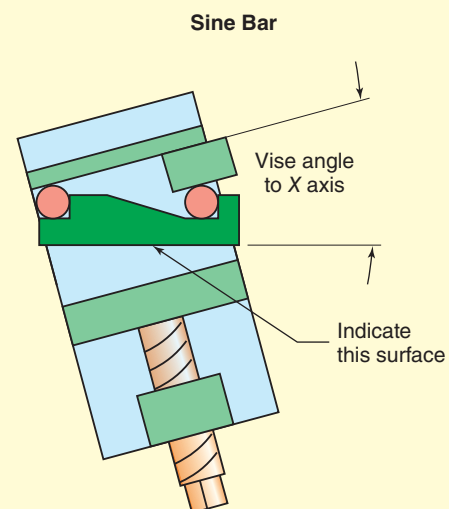

Figure 12-103 Setting up a vise to a precision angle by indicating a sine bar.
3. *Indicating a sine bar*, is the most precise method available (Fig. 12-103). Accuracy will be within 0.00058. A major improvement!